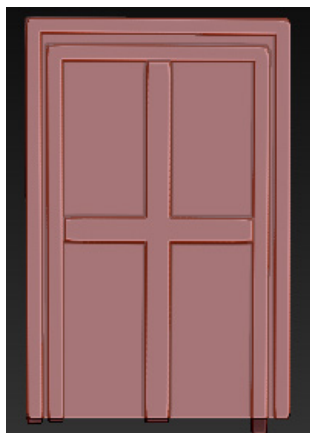

Figure 3-102 A horizontal partition created in the middle of the door
10. Draw a horizontal line in the middle of the *door* to create a horizontal partition, as shown in Figure 3-102.